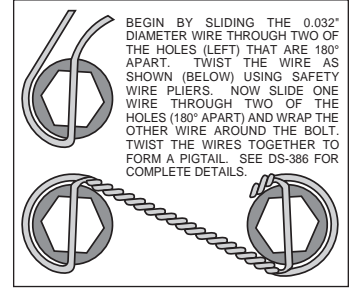

Figure 3. Safety Wire Diagram
- Orient the rotor (6) and the hat (7) as shown in Figure 1 and Photo 1. Attach rotor to hat using bolts (9) and washers (8). Using an alternating sequence, apply red *Loctite*[®] 271 to the threads, and torque to 155 **in-lbs**. For an added measure of security, the bolts may be safety wired using standard 0.032 inch diameter stainless steel safety wire as shown in Figure 3. Please refer to Wilwood's data sheet DS-386 for complete